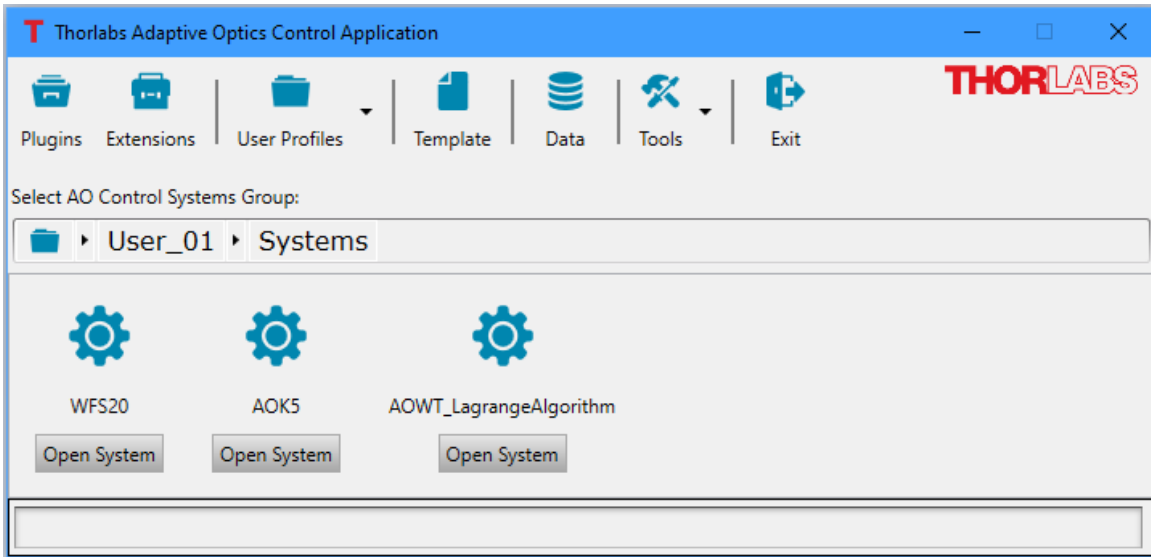

Figure 90 The main Control Application window now shows the newly added AOWT_LagrangeAlgorithm system icon.
8. Clicking the Ok button in the User Profile window will cause the Main window to update. An icon will appear in the lower section of the window when the Control System Group within the User Profile within which the system was created is selected. See Figure 90.